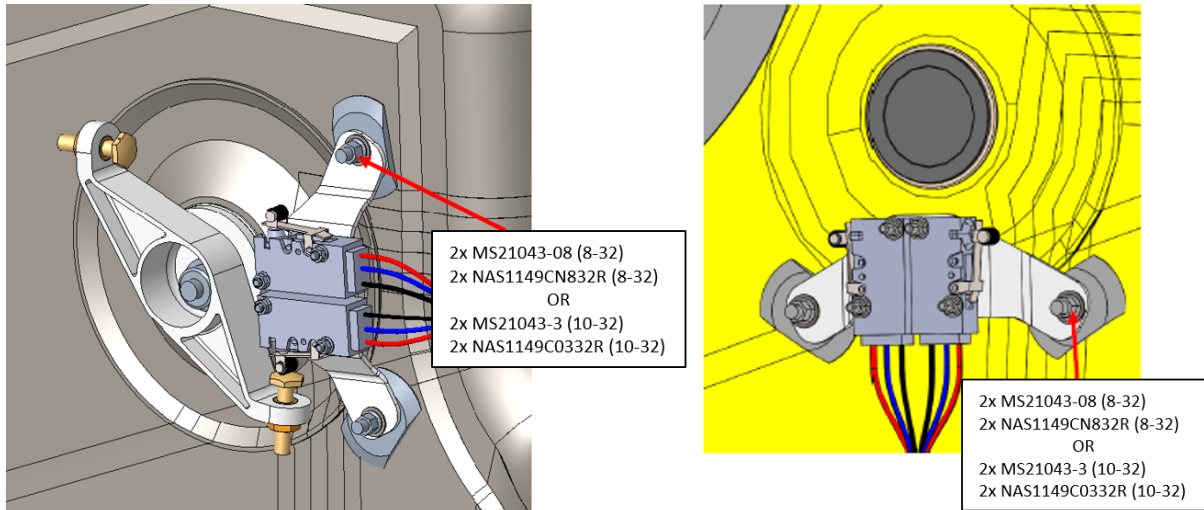

Figure 12. Installed limit switch subassembly; (1.0 config: Orient as shown on right)
16. Using isopropyl alcohol, clean surfaces where lubricant will be applied. Apply ICA012078 Tef-Gel to the threads of the studs, and (if using 10-32 studs) to the previously drilled holes in the bracket. Install limit switch assembly onto studs with 2x NAS1149CN832R washers and 2x MS21043-08 nuts torqued to 14 in-lbs (if 8-32 studs were used), or with 2x NAS1149C0332R washers and 2x MS21043-3 nuts torqued to 20 in-lbs (if 10-32 studs were used) as shown in **Figure 12** below.